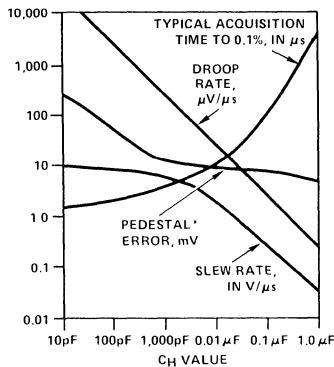

FIGURE 3
- B. The holding capacitor  $C_H$  is the only essential external component required for operation of the HI-5900. The value selected determines droop rate, offset error and acquisition time according to curves shown in Fig. 3. Board layout should include a guard ring to prevent voltage-driven leakage at the capacitor terminal. See Fig. 5.